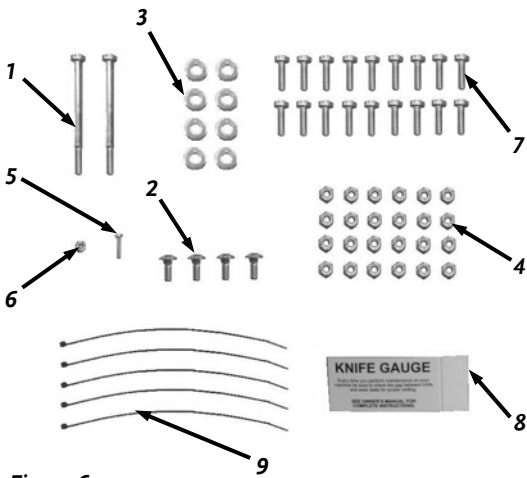

Figure 6
- Product Package Containing: Owners Manual, Wire Harness and Hardware Package Containing: (items in table below and **Figure 6**)